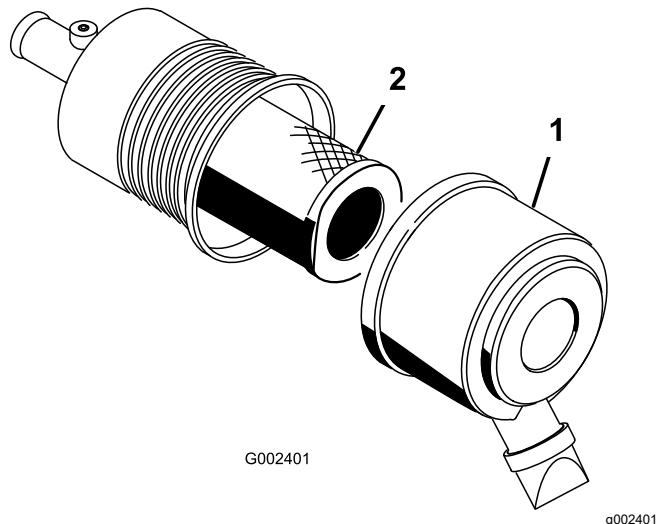

Figure 50
2. Release the latches securing the air-cleaner cover to the air-cleaner body (Figure 50).
3. Remove the cover from the air-cleaner body (Figure 50).
5. Remove and replace the filter (Figure 50). Do not clean the used element because it could damage the filter media.